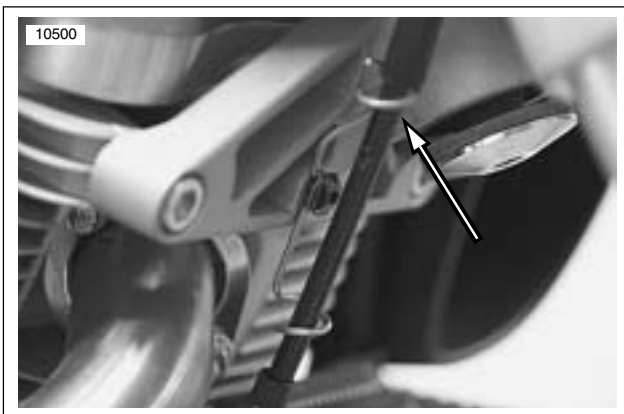

Figure 2-85. Clutch Cable Wire Form
2. See Figure 2-85. Remove clutch cable wire form.
10. Tighten front isolator bolt (6) to 49-51 ft-lbs (66-69 Nm).
11. See Figure 2-85. Install clutch cable wire form. Tighten fastener to 12-36 **in-lbs** (1-4 Nm).